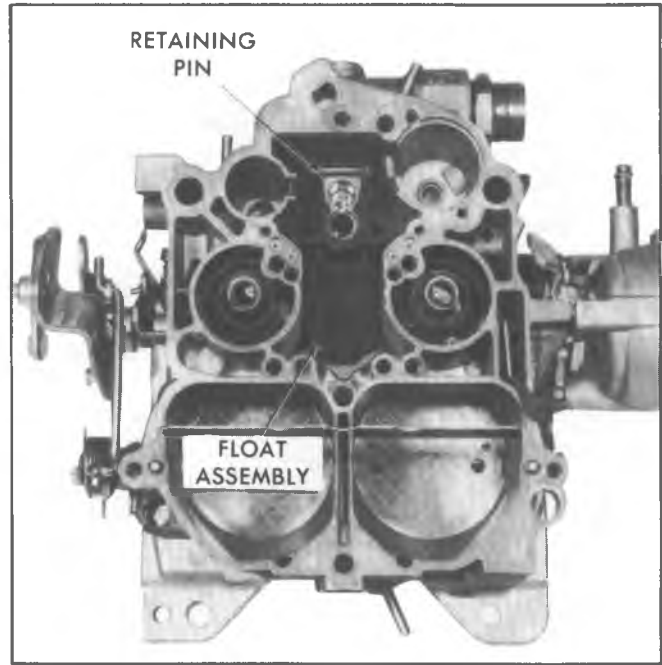

Fig. 11MQ—Float Assembly
7. Remove float assembly and float needle by pulling up on retaining pin. Remove float needle seat and gasket. (Fig. 11MQ).